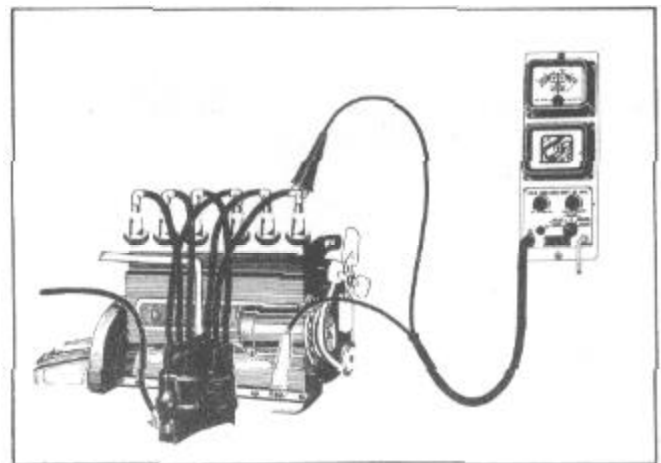

FIGURE 20
1. Connect test leads as shown in Figure 20.